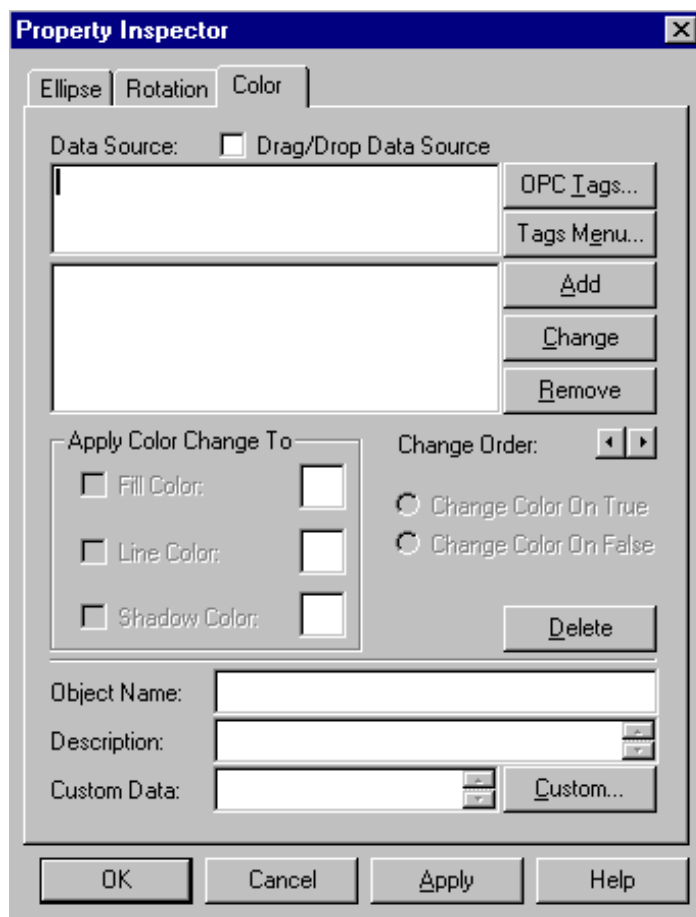

Figure 11-7: Property Inspector Dialog Box - Color Tab
2. On the Dynamics menu, select Actions > Color. The Property Inspector dialog box appears with the Color tab (Figure 11-7).